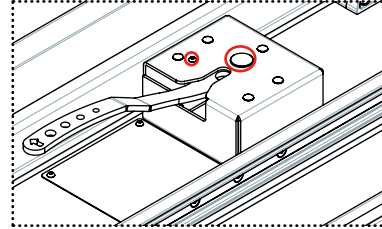

FIGURE 4
- Check that the lock handle is not loose. If it is loose, the main screw of the rotation axis and the small screw that guides the lever must be tightened (see Fig. 4).